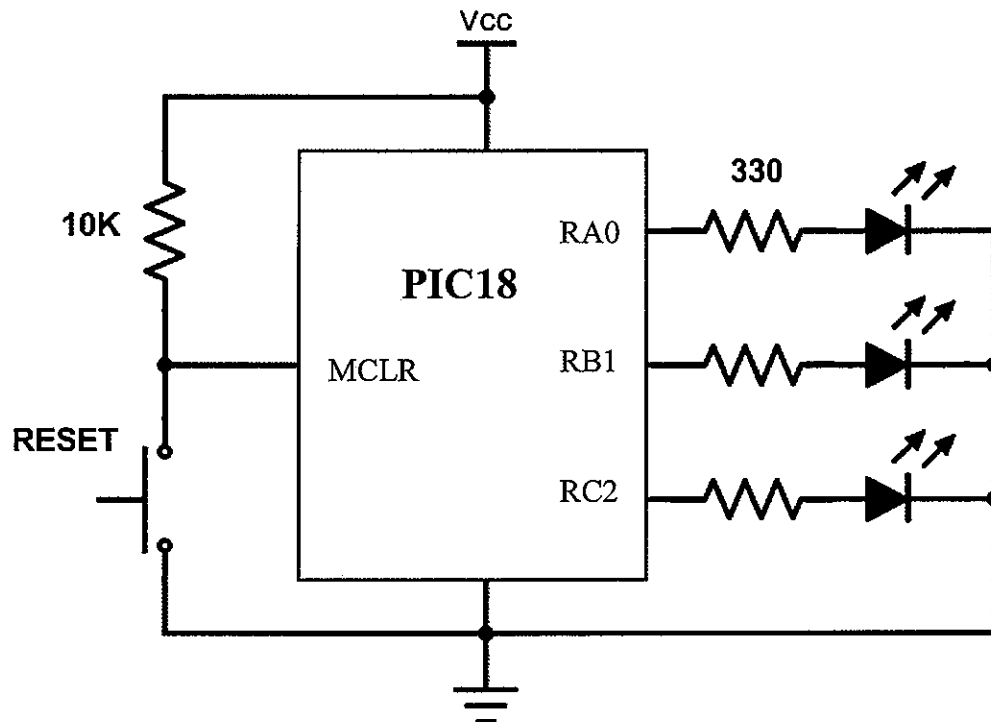

Figure A1 (b) / Rajah A1 (b)
- CLO1 (b) In Figure A1 (b), three (3) pins at PIC18 are connected to a pair of 330 Ω resistor and LED respectively. Using bit addressable instruction, write a C program for PIC18 to switch on all LEDs.